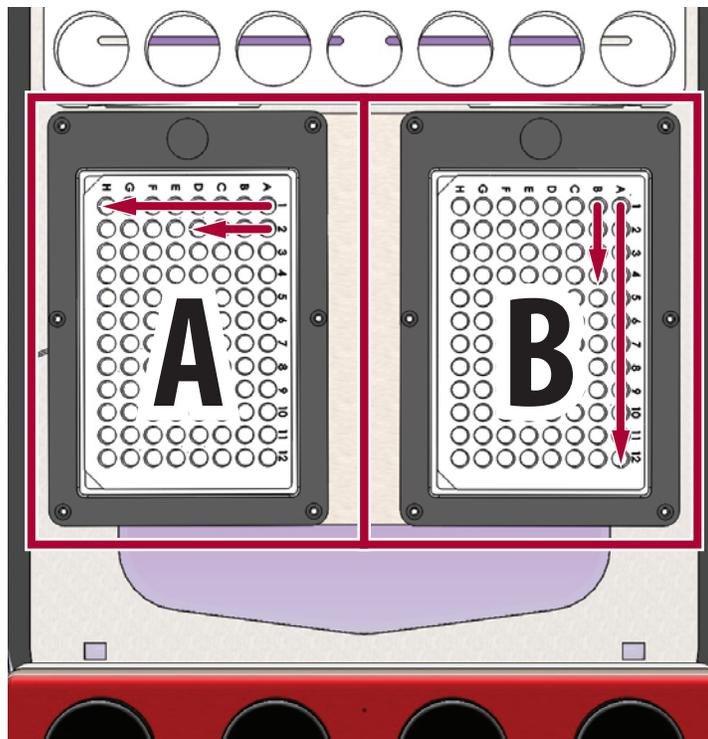

Figure 8A & B. Designating samples. **A.** Standard way to designate samples. **B.** Alternate way to designate samples.
Designating the sample well locations is similar to the way the sample tubes are designated on other rack types. In the example shown in **Figure 8A** for rack 2, the sample set would read 201-212. The first digit (2) specifies rack 2, and the last two digits specify the well numbers. The well numbers move from right to left, then down, starting at the top right corner. For more information see Tech Note 209 *Software Shortcuts (TN209)* for specifying sample sets.